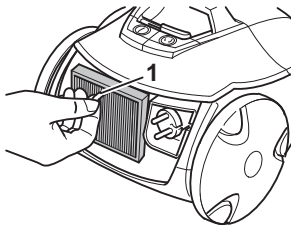

Fig. 24
3. Remove the blow-out filter by the strap (Fig. 24/1).